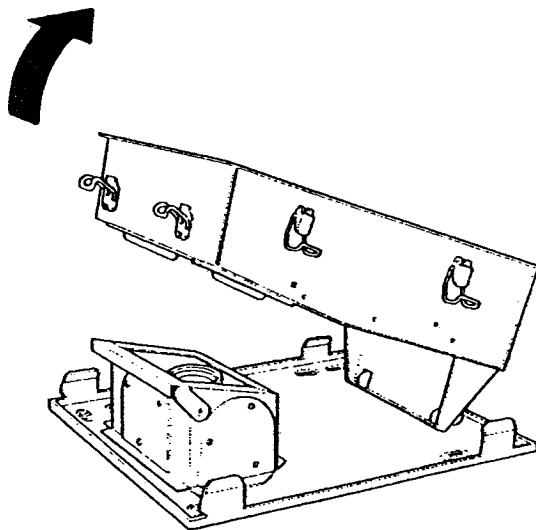

Fig. 15
5. Lift and remove the combustion box from the back plate (Fig. 15). Place the combustion box on its back.